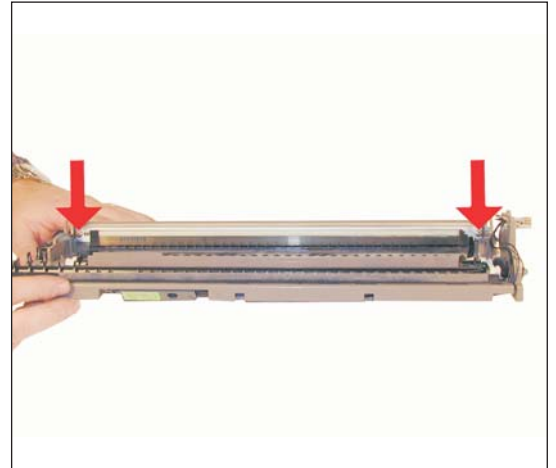

Figure 32
23) Remove the two screws and the wiper blade. See Figure 32